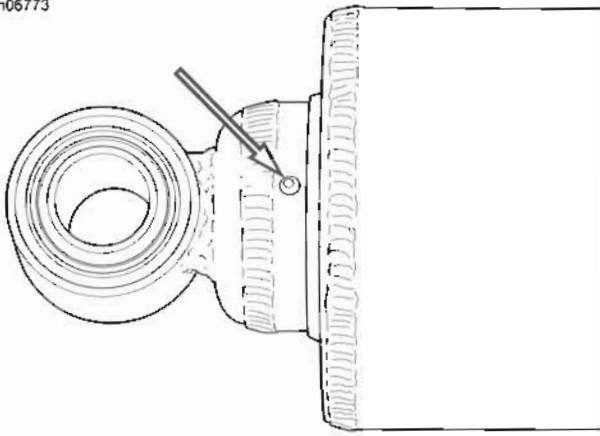

Figure 2-89. Center Punch/Drill Hole Location
2. See Figure 2-89. Center punch the reservoir between the weld and the reservoir can.